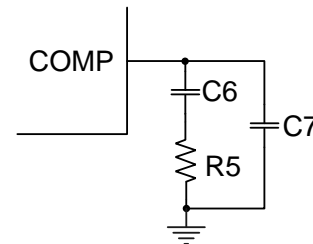

Figure 9: Compensation Network
The MP2918 employs current-mode control for easy compensation and fast transient response. COMP is the output of the internal error amplifier and controls system stability and transient response. A series resistor-capacitor (R-C) combination sets a pole zero combination to control the control system's characteristics (see Figure 9). The DC gain of the voltage feedback loop can be calculated with Equation (15):
The system has two important poles: one from the compensation capacitor (C6) and the output resistor of the error amplifier, and the other from the output capacitor and the load resistor (see Figure 9). These poles can be calculated with Equation (16) and Equation (17):